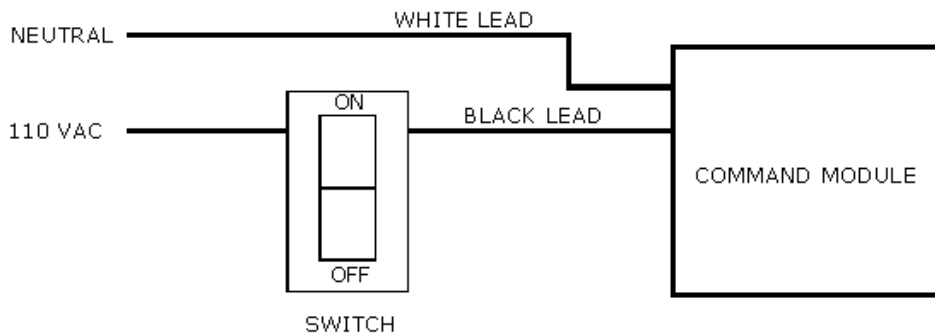

Figure 13
14. Locate the power cable coming from the back wall of the Command Module. **Connect the power cable to a 110-VAC outlet that is switched on/off by a conveniently located wall mount switch that will operate only the Ambiance Command Module System** (see Figure 13). Due to the variety of switches, refer to the instructions of the switch to ensure proper wiring. Make sure that the Command Module is the only device ran by the power switch. The MoodLight Power Supply could also be connected to the switched outlet.